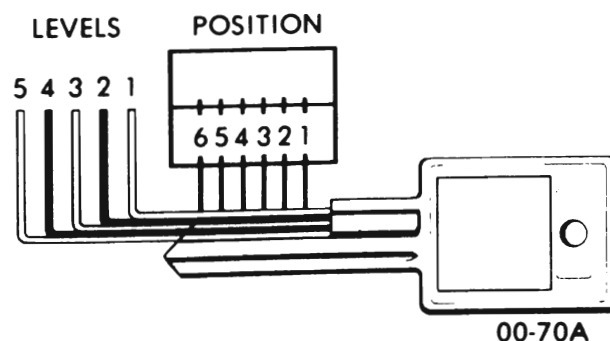

Figure 00-1 - Key Code Diagram
Key code numbers are stamped on the "knock-out" plug in the key head. After the code has been recorded by the owner to facilitate replacements or duplications of a key, the plugs should be knocked out of the key heads. If key code numbers are not available from records or from the "knock-out" plug, the code can be determined by laying the key on the diagram in Figure 00-1, or from the ignition lock cylinder housing and glove compartment lock assemblies themselves. The station wagon ignition lock cylinder will be marked with the key code number for the tailgate lock cylinder, the door lock cylinders and ignition lock cylinder.
For "C" type lock cylinders assemblies, the key code number is stamped on the ignition lock cylinder housing; for "D" type lock cylinder assemblies, the number is stamped on the glove compartment (marked on the tumbler carrying plug) lock cylinder. From these numbers the lock combination can be determined by use of a code list for cutting new keys for coding a replacement service lock cylinder assembly. Door lock, rear compartment, and tailgate lock cylinders coded by the car division do not have key code numbers stamped on them; therefore, codes may be determined either from a ignition or glove compartment lock cylinder of the same car which will have the same lock tumblers, or from the key code diagram. See Figure 00-1.
1. Lay the key on the Key Code Diagram, Figure 00-1, with the key outlined by the diagram as accurately as possible.